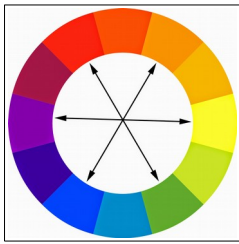

Fig 22. Colour Wheel
45. Under each of the Nixie tubes is a pair of RGB led lamps. Normally they both illuminate exactly the same colour to give a uniform light under the tube. However you can offset one lamp against the other to create some interesting light effects within the base of the Nixie tube, where the glass diffuses the two colours together. It works by placing all the colours of the spectrum on a wheel (fig. 22) and then using an offset figure in degrees that you enter (0-360). For example, if a tube was set to be illuminated with a red colour, if you then enter an offset value of 180 then the main led lamp would be red but the other one would then be the polar opposite and illuminate green. Using a smaller value say 30 for example produces a crystalline effect in the base of the tube.